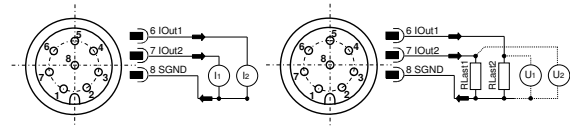

Fig. 3.2: Measuring the analog 4...20 mA outputs with and without load resistors
- If the oil in the tank is not sufficiently mixed, it is possible that free water can settle on the floor of the tank. Consequently the sensor at position 1 would not detect the water. In this special case installation position 2 would be recommended (see: fig. 3.2).